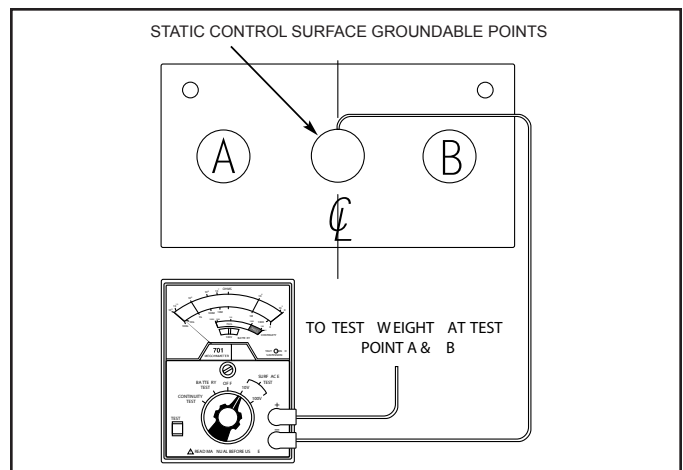

Figure 8. Material Evaluation Surface to Surface Test.
- Surface-to-surface Test: Test samples as shown in Figure 8 use both test weights and repeat the same test procedure used to determine (RTS-GP).